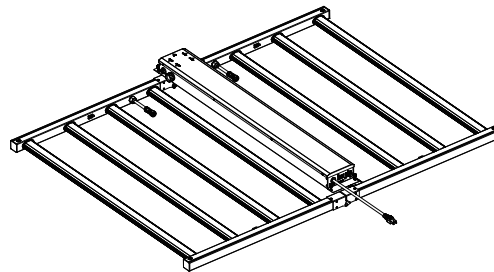

Figure 3
- 3: Assemble the driver box to unfold fixture with thumb screw.(Figure 3)